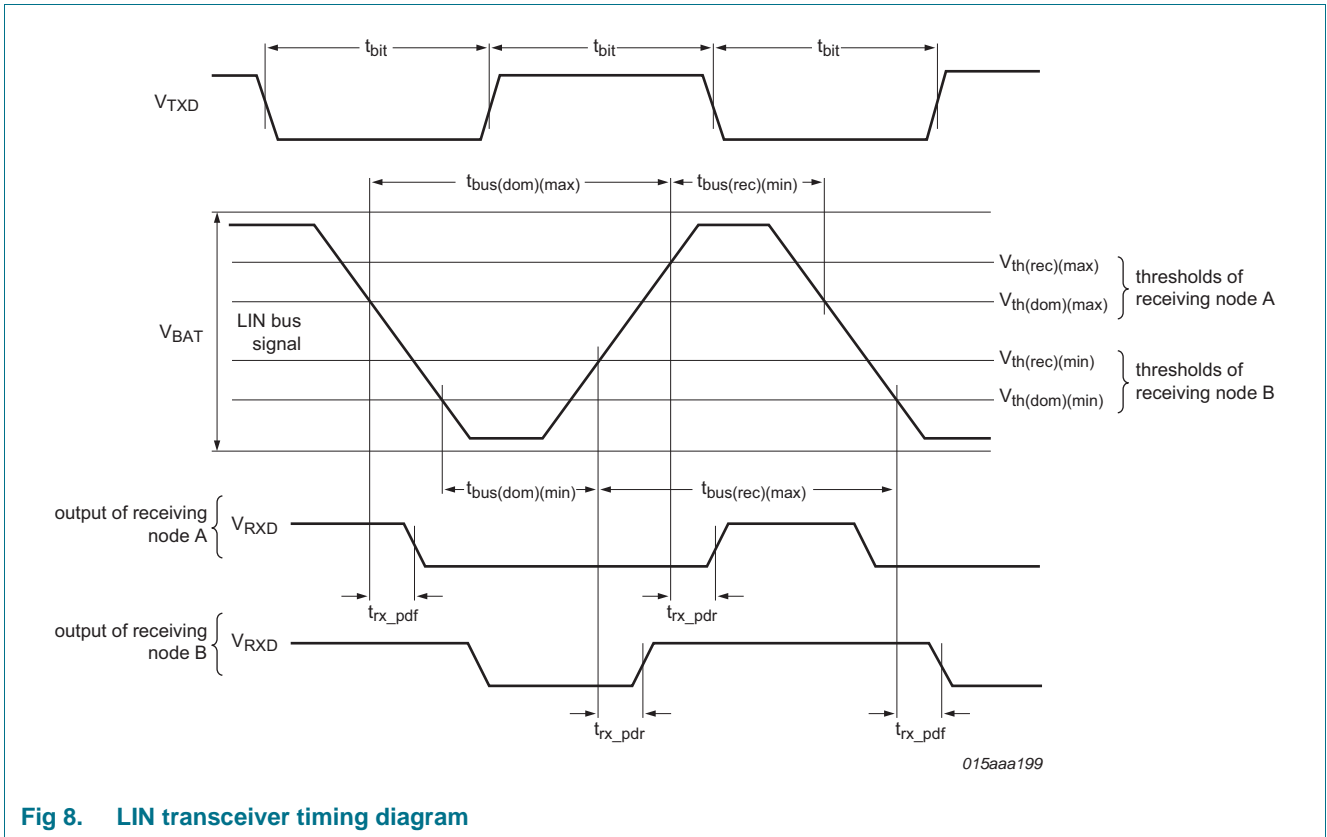

Fig 8. LIN transceiver timing diagram
[3] See Figure 8.
- [3] $\delta 1, \delta 3 = \frac{t_{bus(rec)(min)}}{2 \times t_{bit}}$. Variable $t_{bus(rec)(min)}$ is illustrated in the LIN timing diagram in Figure 8.
- [6] $\delta 2, \delta 4 = \frac{t_{bus(rec)(max)}}{2 \times t_{bit}}$. Variable $t_{bus(rec)(max)}$ is illustrated in the LIN timing diagram in Figure 8.